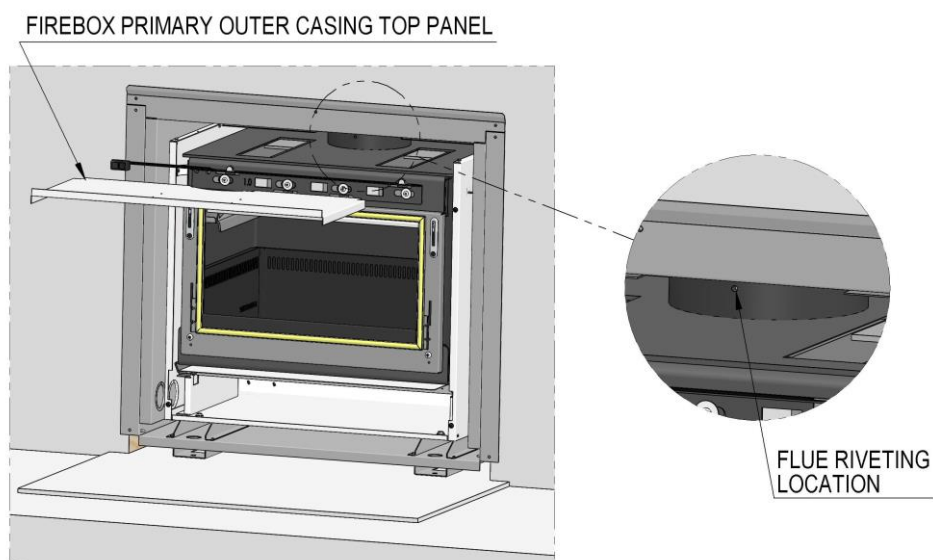

Fig. 10
P. Xander Flue Spigot Fixing (Fig. 10)